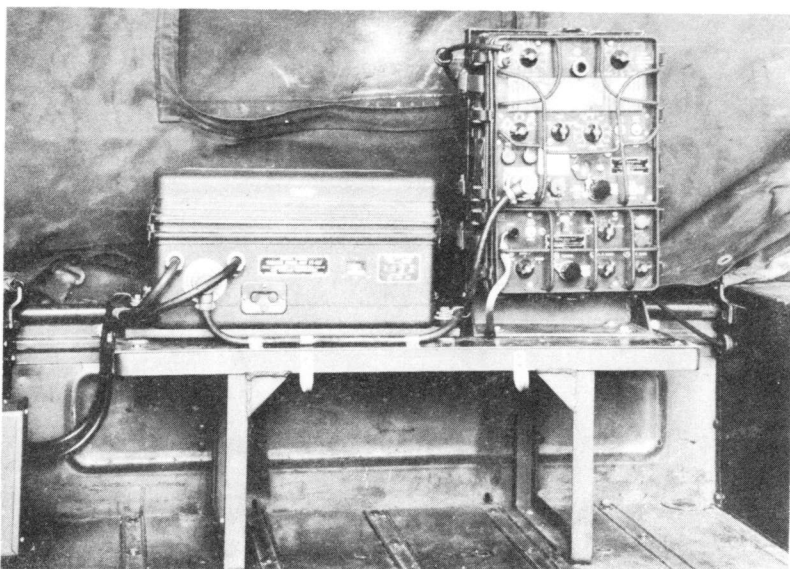

Figure 30.—Radio Set AN/GRC-9 set up for vehicular operation.
c. For vehicular installations, the mast sections are screwed into the mast base mounted on the vehicle. Care must be taken to keep the vehicle away from trees, buildings, and areas that will affect the operating efficiency of the equipment. Figure 30 illustrates the radio set and vibrator power pack mounted for vehicular operation.